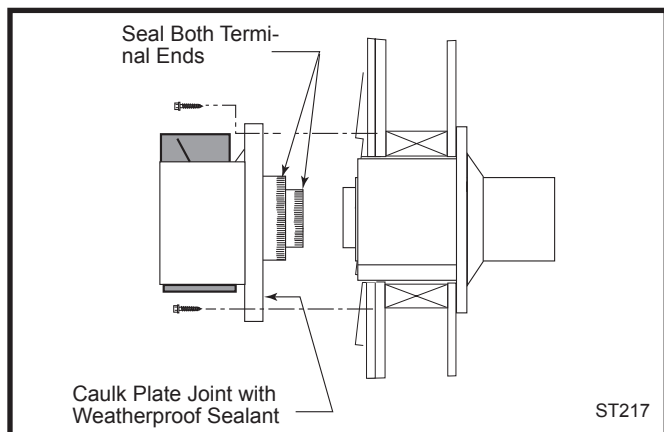

Fig. 29 Install the vent terminal.
**10. For both CFM and DuraVent Systems:** Install the vent terminal. (Fig. 29) Apply high temperature sealant one inch from the ends of the inner and outer collars. Guide the inner and outer vent termination collars into the adjacent pipes. Double check that the vent pipes overlap the collars by 2". Fasten the termination to the wall with the screws provided, and caulk the joint with weatherproof sealant.